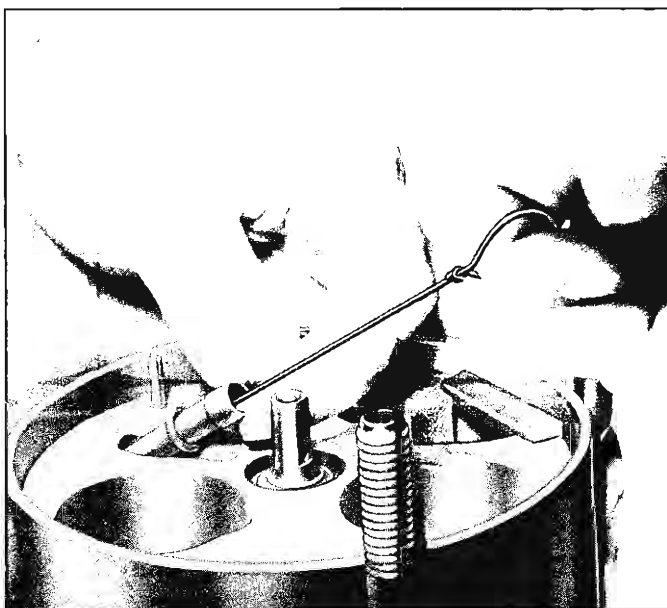

Fig. 27—Removing Oil Inlet Tube and "O" Ring
2. Remove the oil inlet tube and "O" ring with J-5139 as shown in Figure 27.